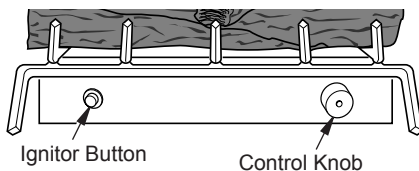

Figure 30 - Control Knob and Ignitor Button Location
4. Wait five (5) minutes to clear out any gas. Then smell for gas, including near the floor. If you smell gas, STOP! Follow B in the safety information, page 20. If you don't smell gas, go to the next step.
5. Turn control knob counterclockwise  to the PILOT position. Press in control knob for five (5) seconds (see Figure 30).